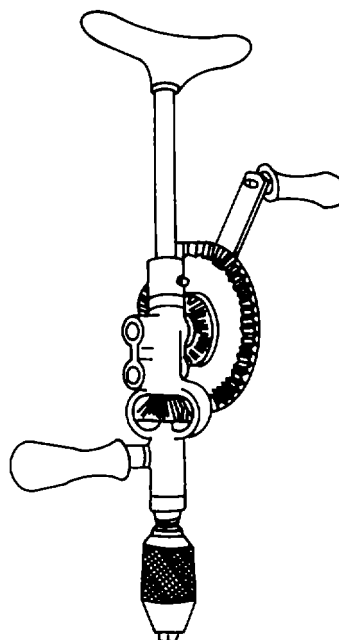

Figure 4-80. Breast Drill
(1) Breast drill. The breast drill has a base for the user to lean against while using the drill. It has a speed shifter which provides a means of selecting low or high drill speeds. The low drill speed has a 1:1 gear ratio, and the high speed ratio is 3-1/2:1. This drill, shown in figure 4-80, is used to drill holes in wood, plastic, and small gauge sheet metal.